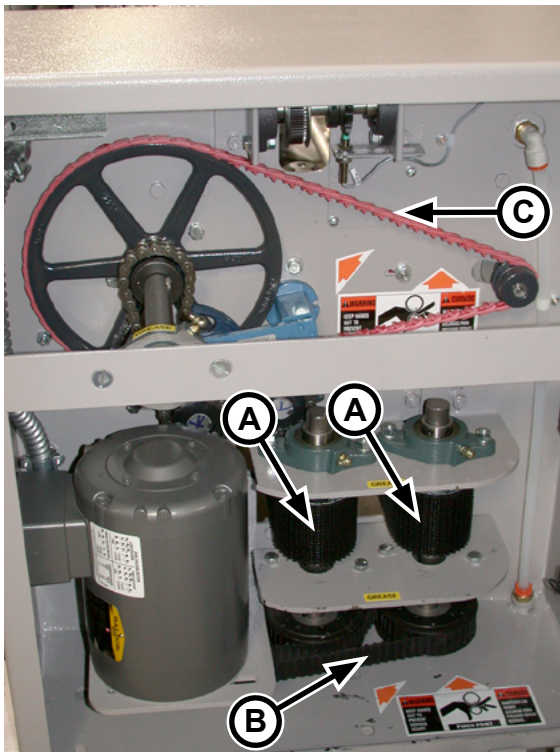
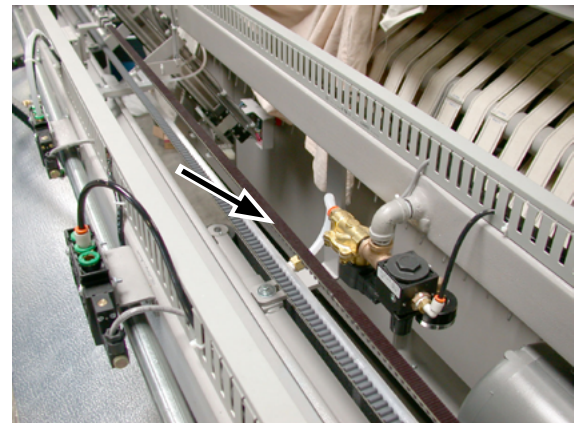

Figure 4-9: Inspect belts on both sides of the unit.
Figure 4-10: Check the upper spreader drive belt.
3. Carefully inspect the two sets of lower spreader belts (one black set on each side) (Figure 4-9, A) and the upper spreader belts (Figure 4-10) on the unit.
3. Carefully inspect the lower spreader drive belts (one in each endframe) (Figure 4-9, B) and the discharge conveyor drive belt (C).